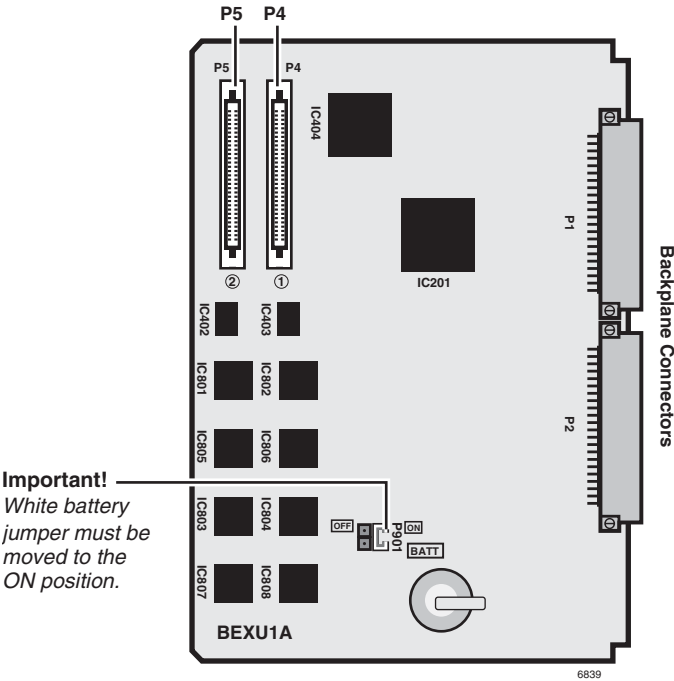

Figure 4-29 BEXU1A Expansion Unit Processor
5. If you are installing more than one Expansion Unit, install the BEXU processor in slot B101 (see Figure 4-29).